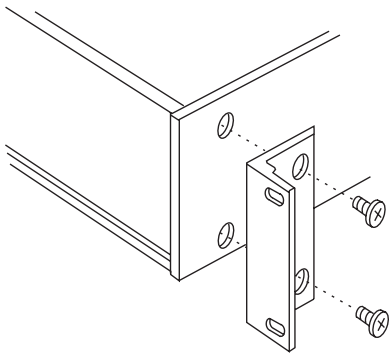

Figure 7
- Align the rack bracket with the holes on the side of the unit. See Figure 7.